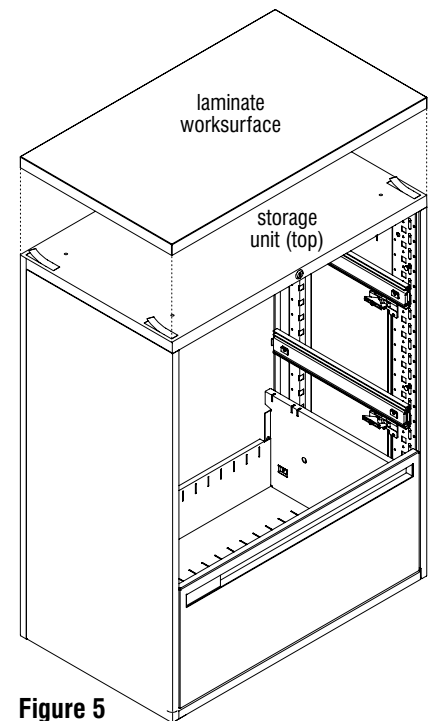

Figure 5
7. Remove the backing from the double-sided tape, which were adhered to the storage unit tops in the previous step. Carefully center the laminate top over the storage unit(s) such that the top overhangs the storage unit by $\frac{1}{16}$ " on all sides, then set the laminate top onto the storage unit(s) (Figure 5).
8. Assure that the laminate top is properly aligned on the storage unit(s). Then, from inside the storage unit(s) at the pre-drilled holes, use a power drill with #3 Phillips tip and #14 x $\frac{7}{8}$ " Phillips Pan Head screws to secure the storage unit top(s) to the laminate top at each corner, and at the on-center front and back locations, if applicable (Figure 5 & Detail C).